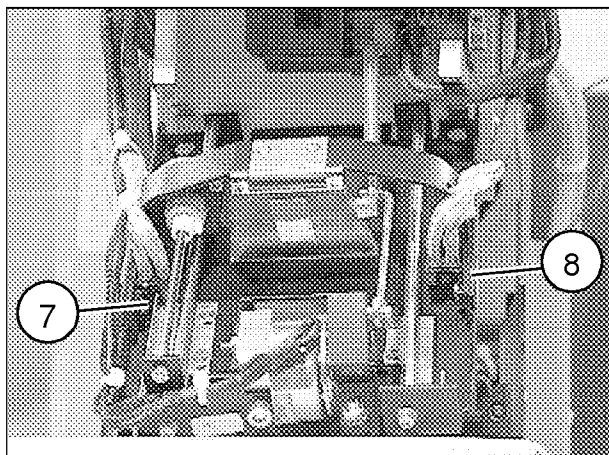

Fig. 7
- Replace light barrier S865 (7/Fig.7).
- Replace light barrier S866 (8/Fig.7).